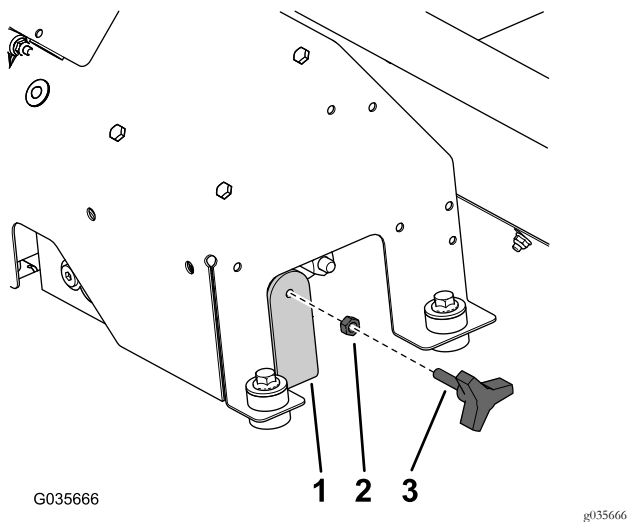

Figure 20
1. Remove the knob from the previously removed harness and mount it on the previously installed knob bracket (Figure 20).